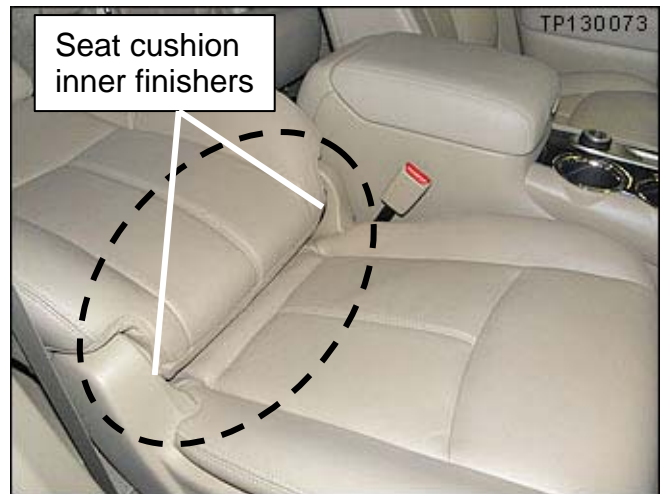

Figure 4
6. Remove the seat cushion inner finishers (left and right side), shown in Figure 4, as follows.